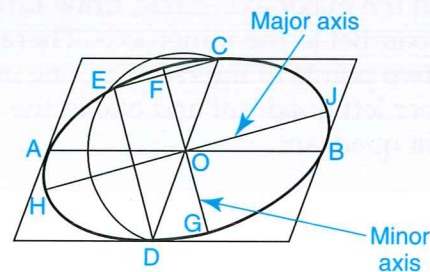

Figure 7-6. Finding the major and minor axes of an ellipse when the conjugate diameters are known.
1. An ellipse and its conjugate diameters are given, **Figure 7-6**.